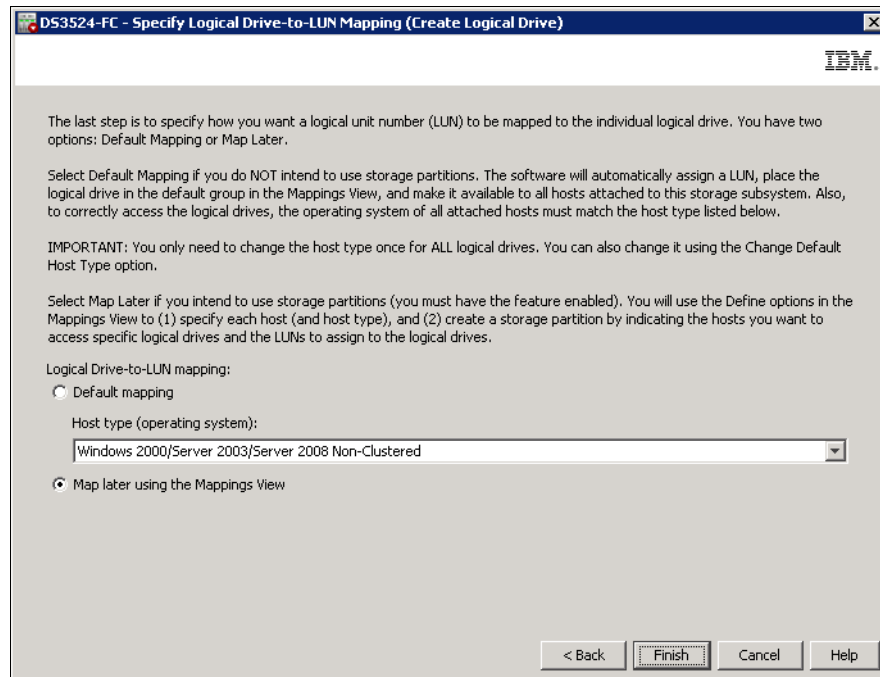

Figure 9-20 New logical drive mapping
- 5. Click **Next**, and the Specify Logical Drive-to-LUN Mapping window (Figure 9-20 on page 236) opens. This window allows you to choose between mapping your created logical drive to the default host group or to **Map later using the Mappings View**. If you select **Default mapping**, your new logical drive is mapped to the Default Group and is available to any host zoned to the DS3500 Storage Subsystem.